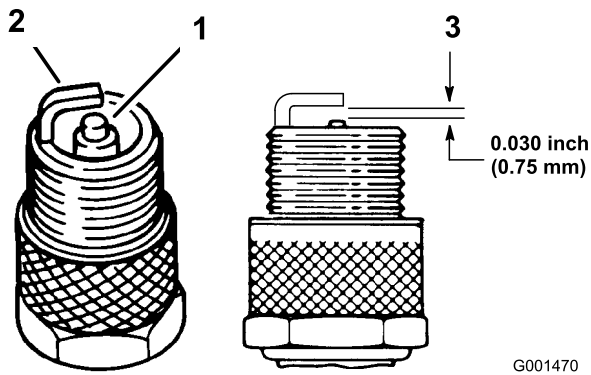

Figure 27
1. Look at the center of the spark plugs (Figure 27). If you see light brown or gray on the insulator, the engine is operating properly. A black coating on the insulator usually means that the air cleaner is dirty.
3. Check the gap between the center and side electrodes (Figure 27). Bend the side electrode (Figure 27) if the gap is not correct.
3. Connect the wires to the spark plugs (Figure 27).